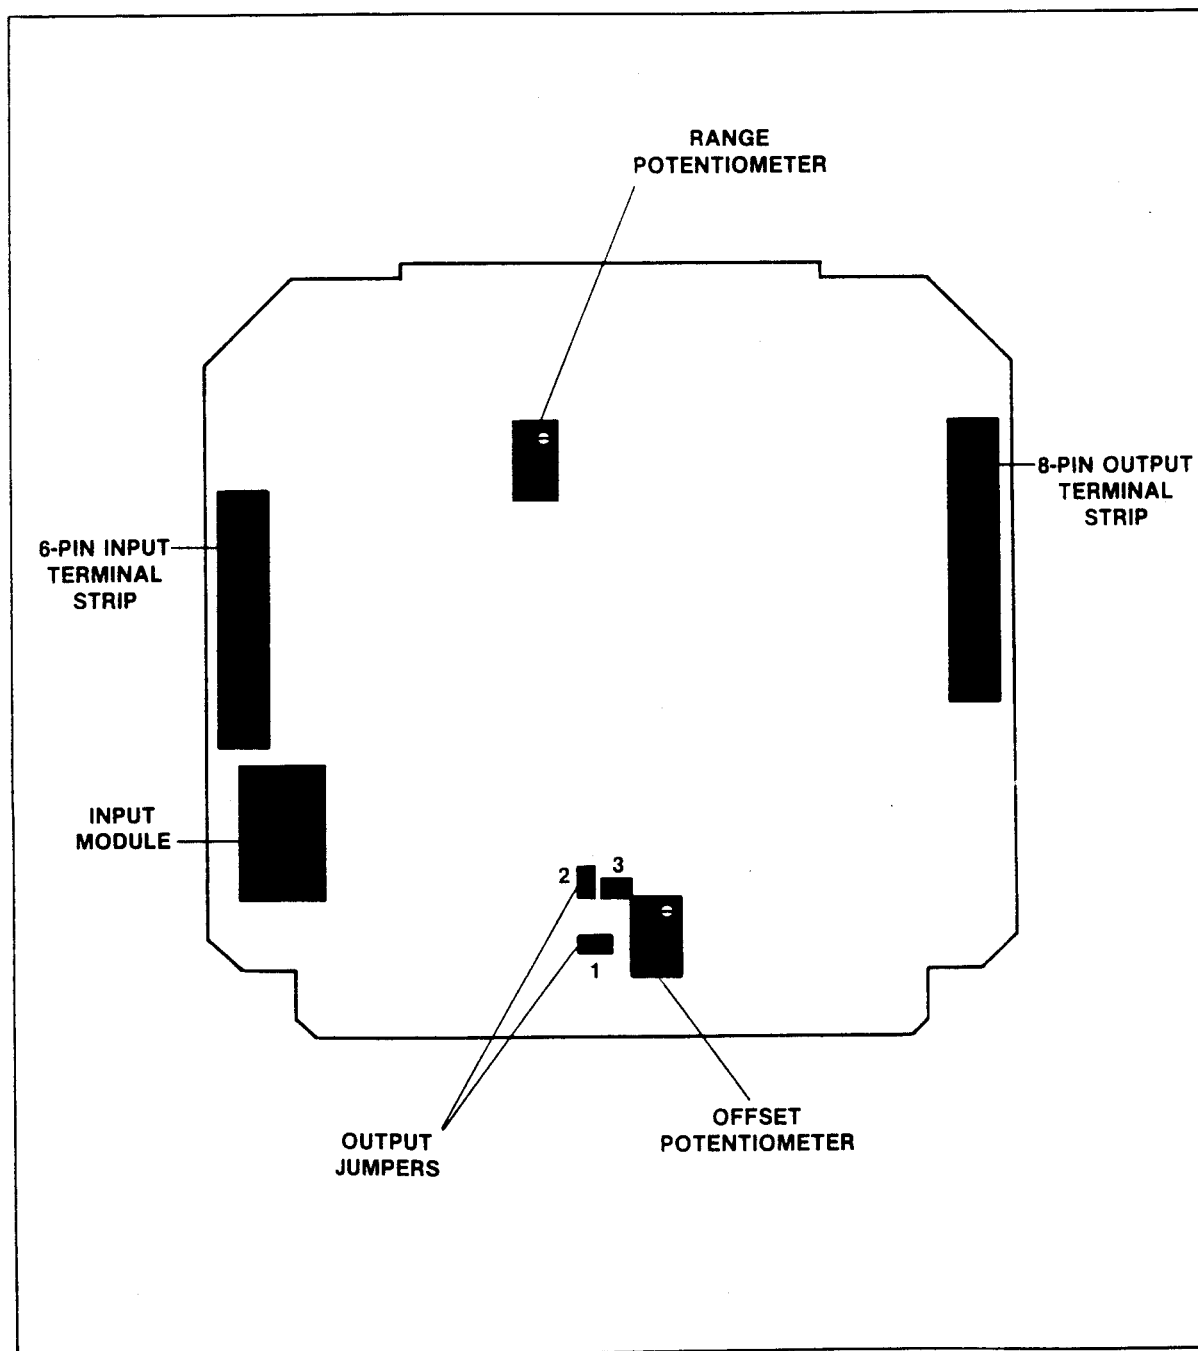

Figure 4. Abbreviated view of component-side of Signal Conditioner PC board.
The input module of the MK 514 conditions the output signal from a Flosensor. This plug-in module is available in two configurations, each designed for use with specific Flosensors: (1) module M0177 for the MK 515/MK 415 Paddlewheel and MK 566 Magnetic Flosensors, (2) module P30507 for the MK 505 Microflosensor and MK 508 Micet Flosensor (see 3.0 Theory of Operation for circuit details). The module configuration required for your Flosensor is factory-installed as ordered (see Figure 4). Additional modules may be ordered at any time. Using an input module different from that originally installed will require recalibration of the MK 514.